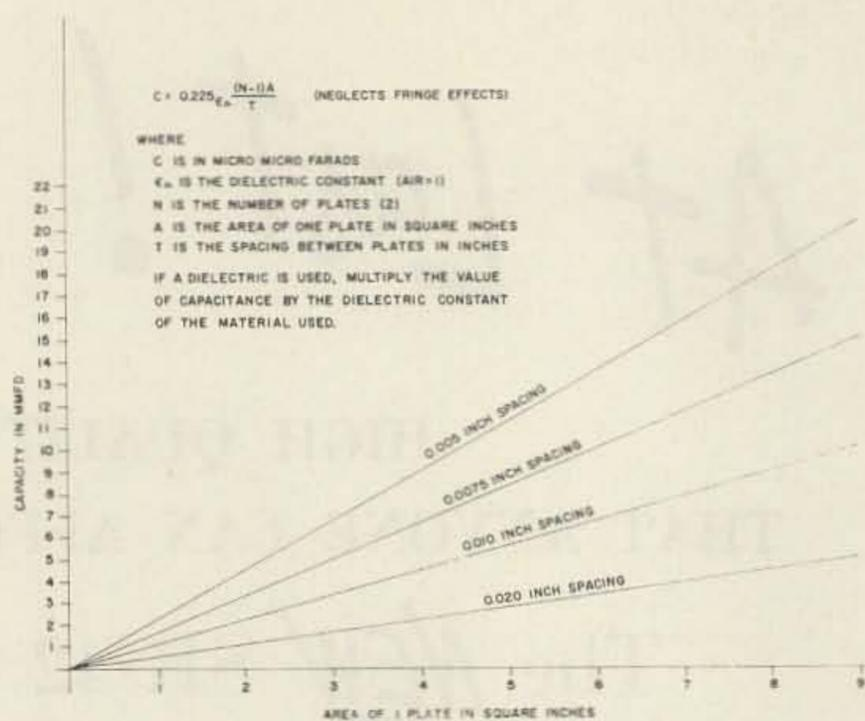

Fig. 6. Capacitance of parallel discs.
Step 5—If you want to use a disc capacitor to tune the line, refer to Fig. 6 and determine the area of the capacitor plate that yields 2.35 mmfd. Assuming 0.020 spacing to be on the safe side, this yields an area of 4.2 square inches or a minimum diameter of about 1.1 inch. Therefore, the tuning capacitor should be made up of two discs 1.1 inch in diameter or preferably a little larger to give you a better safety factor.
Step 1—Going to the handbook, you find that the output capacity of a $4 \times 150A$ is 4.5 mmfd. In all practical applications, an amount of capacitance is added at this point for tuning purposes, and effects due to discontinuities in the line, stray capacitance and variation in the tube parameters. Since most of these lines are tuned using circular or rectangular parallel plate capacitors, with one plate soldered on the line and the other movable, Fig. 6 was drawn showing a plot of capacity in micro-micro farads versus the area of one plate. If it is drawn assuming that maximum capacity is used, since it is easier to subtract capacity than add it once the size has been determined. Various spacing factors between the plates are plotted for use, depending on the voltage requirements. A good rule of thumb for determining spacing with an air dielectric is 22 volts per .001 inch. If teflon is used, 600 volts per .001 inch is a good figure. From this data and the information you will determine regarding the diameters of the line, you can readily determine how big a capacitor plate you can fit in the space available. For this example, we will add approximately 4 mmfd, bringing the total capacity to 8.5 mmfd. Referring to Fig. 4, we see that at 144 mc this represents an X_c of 147 ohms.
Step 5—Assuming a 0.005 inch spacing for the capacitor required. Refer to Fig. 6 and for 5 mmfd. A plate area of 1.85 square inches will be required.
Step 6—The total tuning capacity required is now 8.5 mmfd. Refer to Fig. 6 and, assum-